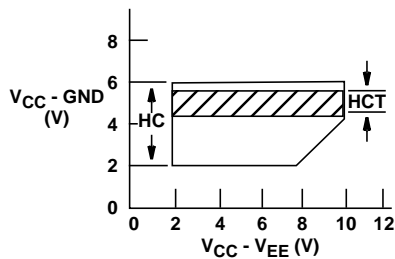

FIGURE 2.
In addition these devices contain logic-level translation circuits that provide for analog signal switching of voltages between ±5V via 5V logic. Each switch is turned on by a high-level voltage on its select input (S) when the common Enable (E) is Low. A High E disables all switches. The digital inputs can swing between V_{CC} and GND; the analog inputs/outputs can swing between V_{CC} as a positive limit and V_{EE} as a negative limit. Voltage ranges are shown in Figures 2 and 3.
HC, HCT Types (Figure 2)2V to 10V